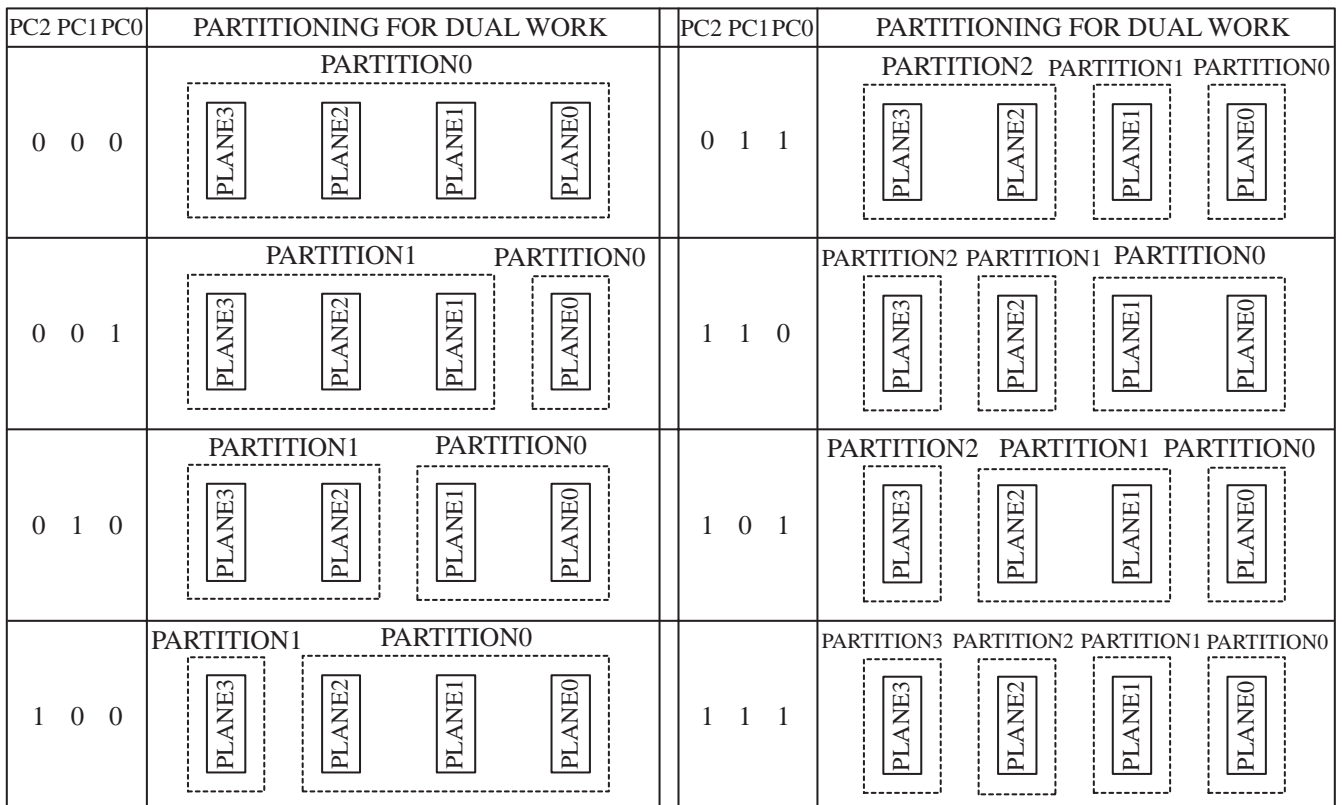

Figure 4. Partition Configuration
<p>PCR.15-11 = RESERVED FOR FUTURE ENHANCEMENTS (R)</p> <p>PCR.10-8 = PARTITION CONFIGURATION (PC2-0)</p> <p>000 = No partitioning. Dual Work is not allowed.</p> <p>001 = Plane1-3 are merged into one partition. (default in a bottom parameter device)</p> <p>010 = Plane 0-1 and Plane2-3 are merged into one partition respectively.</p> <p>100 = Plane 0-2 are merged into one partition. (default in a top parameter device)</p> <p>011 = Plane 2-3 are merged into one partition. There are three partitions in this configuration. Dual work operation is available between any two partitions.</p> <p>110 = Plane 0-1 are merged into one partition. There are three partitions in this configuration. Dual work operation is available between any two partitions.</p> <p>101 = Plane 1-2 are merged into one partition. There are three partitions in this configuration. Dual work operation is available between any two partitions.</p>	<p>111 = There are four partitions in this configuration. Each plane corresponds to each partition respectively. Dual work operation is available between any two partitions.</p> <p>PCR.7-0 = RESERVED FOR FUTURE ENHANCEMENTS (R)</p> <p style="text-align: center;">NOTES:</p> <p>After power-up or device reset, PCR10-8 (PC2-0) is set to "001" in a bottom parameter device and "100" in a top parameter device.</p> <p>See Figure 4 for the detail on partition configuration.</p> <p>PCR.15-11 and PCR.7-0 are reserved for future use and should be masked out when checking the partition configuration register.</p>